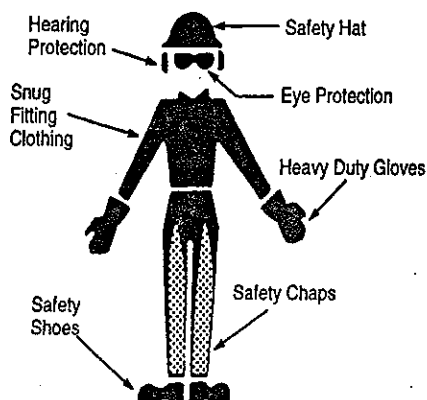

Figure 1
- Wear protective gear. Figure 1. Always use steel-toed safety footwear with non-slip soles; snug-fitting clothing; heavy-duty, non-slip gloves; eye protection such as non-fogging, vented goggles or face screen; an approved safety hard hat; and sound barriers—ear plugs or mufflers to protect your hearing. Regular users should have hearing checked regularly as chain saw noise can damage hearing.